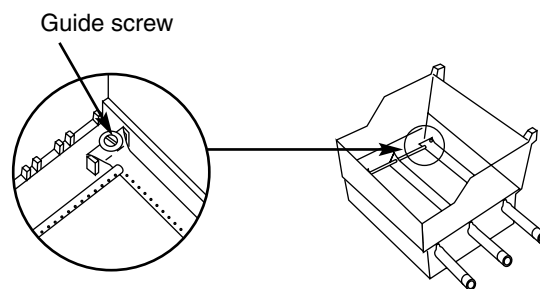

Figure 15
- Slide the burner assembly out from under the guide screw and washer in the corners of the cooking box. Figure 15.